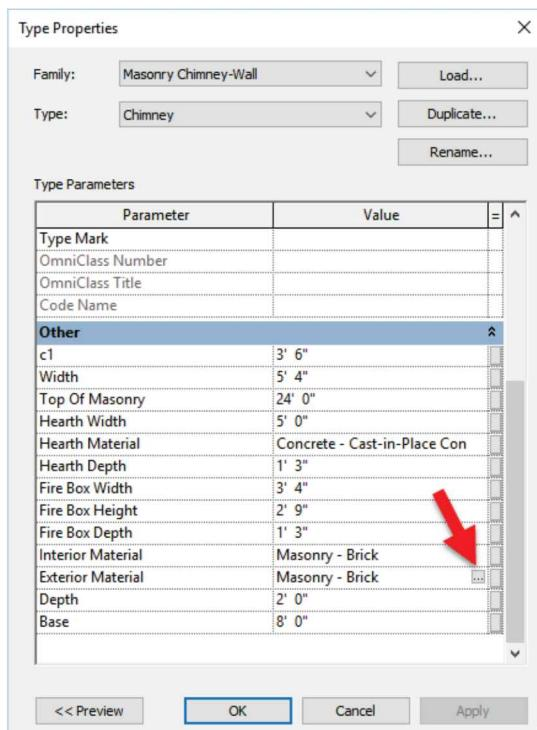

FIGURE 14-2.5 Chimney properties
11. Click on the *Exterior Material* value; notice the material selected for the exterior finish is **Masonry – Brick** (Figure 14-2.5).